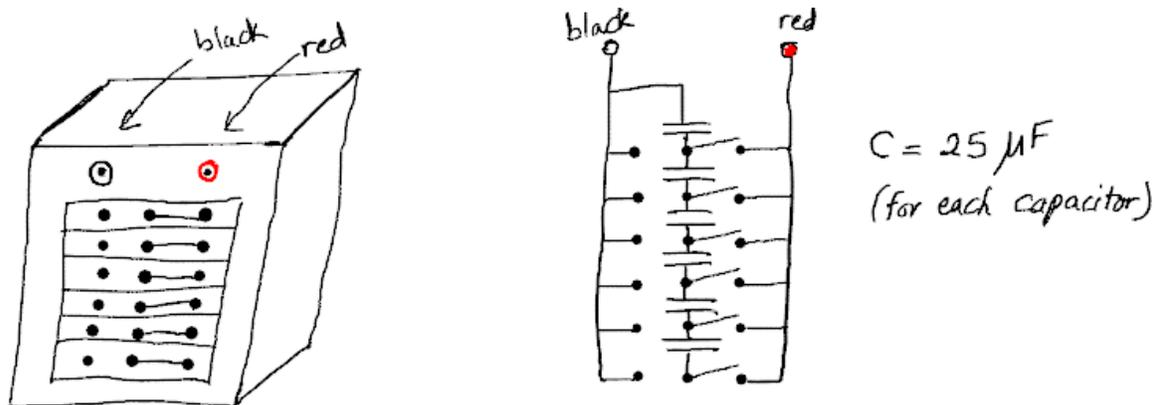

Figure 3
- e. Determine and sketch the layout of the switches in the capacitor bank shown in Fig. 3 to correct the power factor to > 0.95 (lagging).
- e. Determine and sketch the layout of the switches in the capacitor bank shown in Fig. 3 to correct the power factor to > 0.99 (lagging).
- c. Add the capacitance calculated in step 3 of the pre-lab parallel with the load using the capacitor bank described in Laboratory #1. An internal schematic is shown above in Fig. 3.